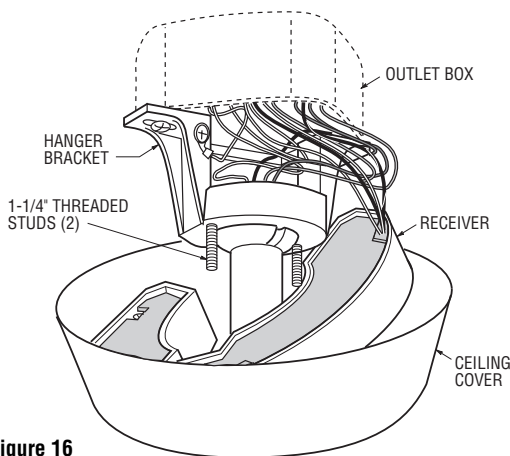

Figure 16
- 6. Screw the two 1-1/4" threaded studs (supplied) into the tapped holes in the hanger bracket (Figure 16).